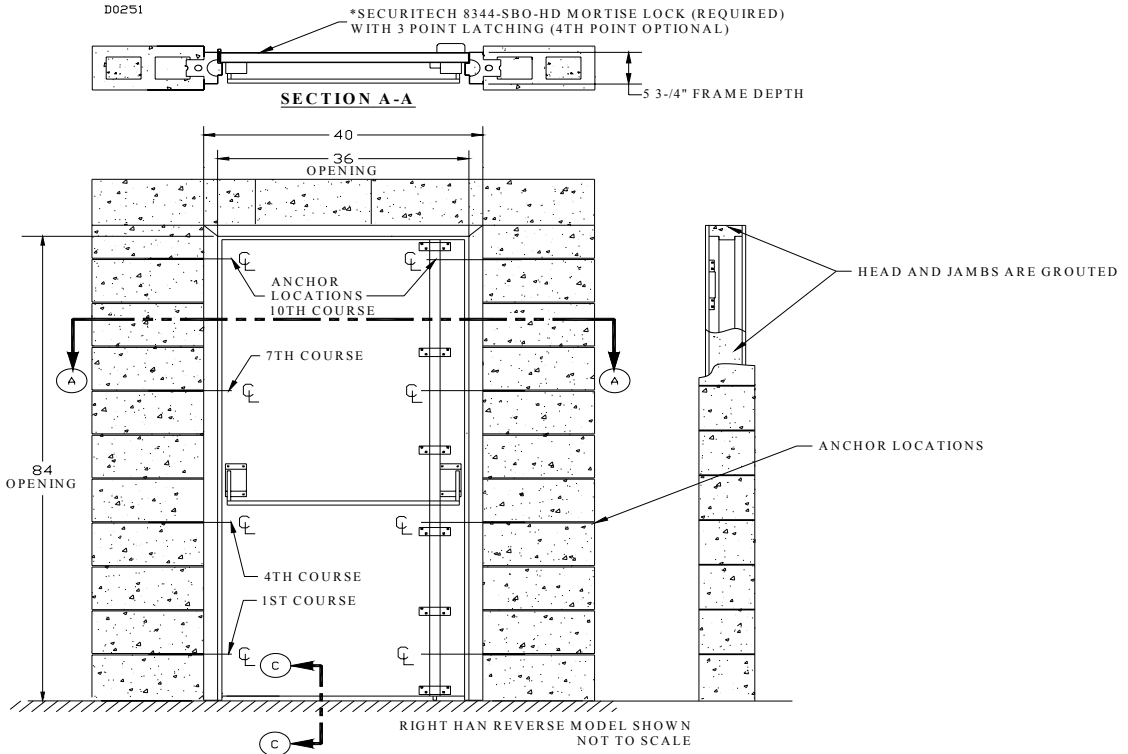
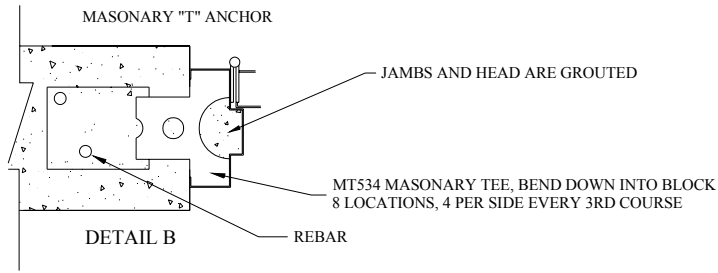

Figure 1
Figure 2
- 1) The StormPro 361 was designed for a concrete masonry unit wall (cmu) section and eight (8) masonry tee anchors have been supplied. A masonry tee (MT534) shall be applied at the 1st, 4th, 7th, and 10th course of the wall on the strike and hinge jamb of the frame unit (see figure 1). The masonry tee may be bent down into the block to allow room for rebar (see figure 2). The walls should be constructed in accordance to FEMA 361.
- 2) The strike jamb, hinge jamb and head shall be grouted. (See figures 1 & 2)